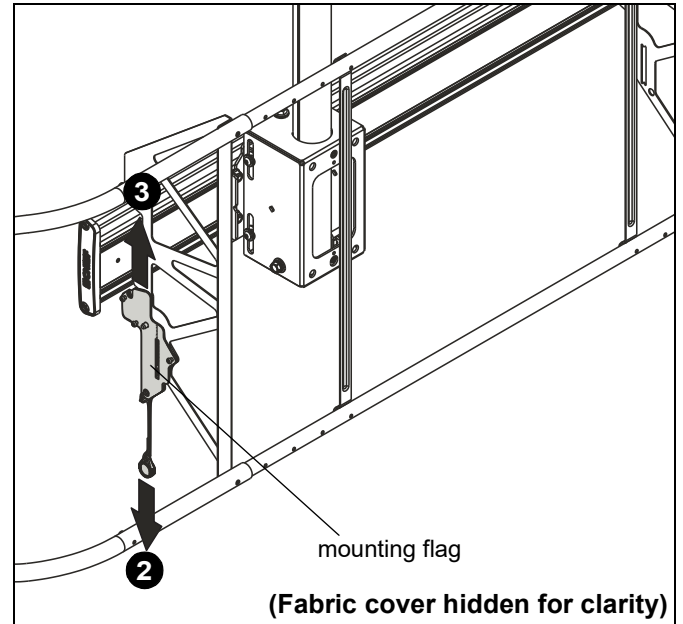

Figure 15
3. Release mounting flag to secure cover to rail. (See Figure 15)
2. Pull down mounting flag and pull under lower edge of mounting rail. (See Figure 15)